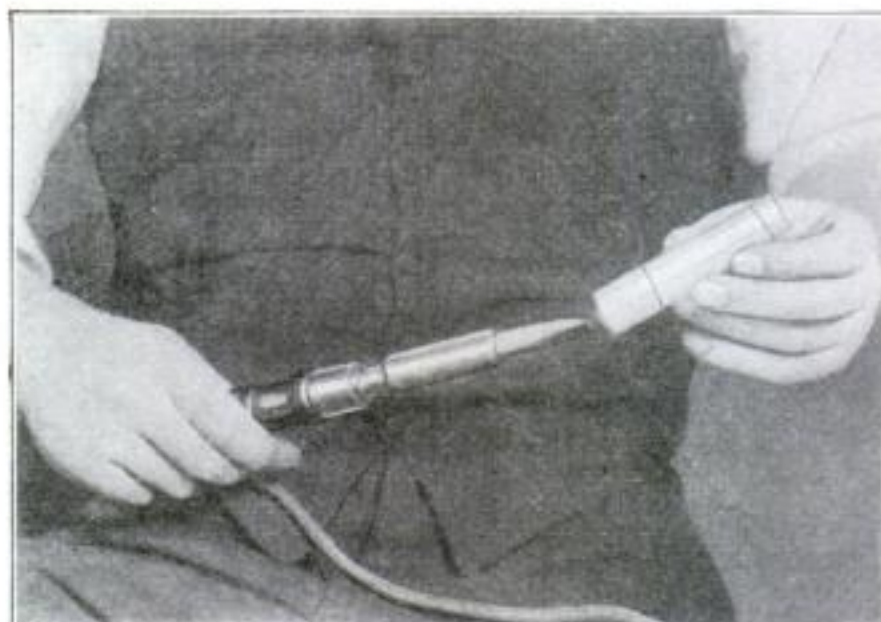

Fig. 2. Use an asbestos shield on your soldering iron, as shown in the photo, when working in tight places to prevent burning the insulation from adjacent wires
**I**N WIRING a radio set you are sure to run into places where it is almost impossible to get the soldering iron in contact with the wires you want to solder without pressing the hot body of the iron against the spaghetti tubing or other insulation on adjacent wires. Burning the insulation in this way can be avoided by constructing a simple shield (Fig. 2) consisting of a roll of sheet asbestos tied with wire that can be slipped on the